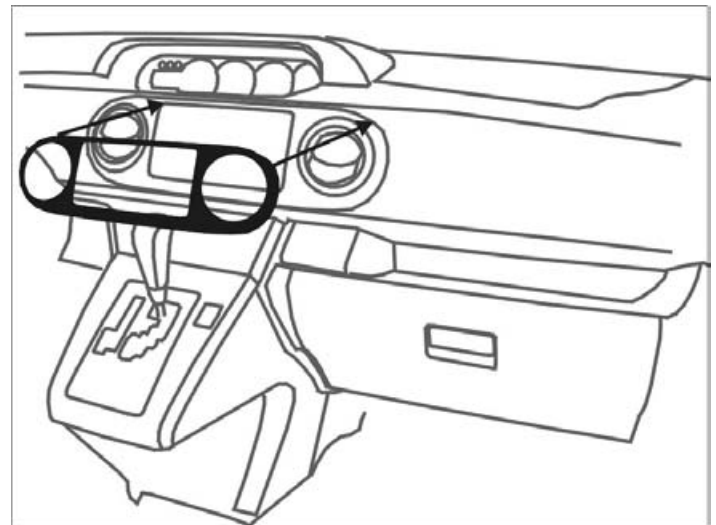

Fig. 3-1
- ⚠ (1) Align part uniformly to edge of factory component. Note: inside surface of IP piece has sticker indicating top side. Installation must be right-side-up, or large gap will appear along top edge. (Fig. 3-1)
- (2) Gently touch part into position.
- (3) Edge of appliqué should be flush to edge of factory component, +/- 1.0mm.
- (4) Once positioned, press part firmly into place by applying finger pressure. Pressure is required for adequate bond to factory component.